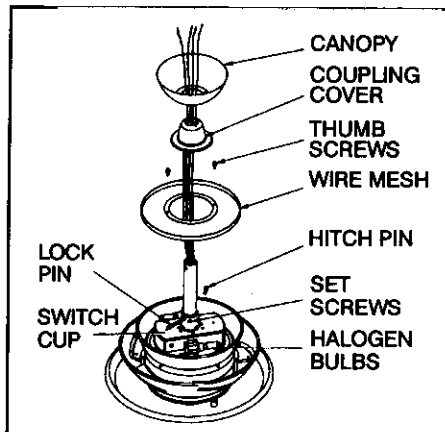

FIG. 9
Step 4. Carefully feed fan wires up through the downrod, thread the rod into the coupling and tighten onto fan until the holes are aligned. Next, replace lock pin and hitch pin. Tighten the set screws. (Fig. 9)
Step 5. Slip wire mesh, coupling cover and then canopy onto the downrod. Secure the wire mesh to the switch cup inside the upper light kit as a safety insulator by 2 thumb screws provided to prevent from touching the hot bulbs. Carefully reinstall the hanger ball onto the rod being sure that cross pin is in correct position, set screw on the hanger ball is tight and wires are not twisted. (Fig.9)